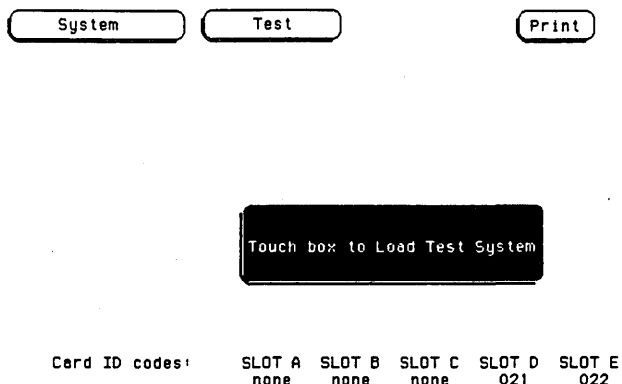

Figure 6-5. Load Test System
c. Touch box to load Test System. See figure 6-5.